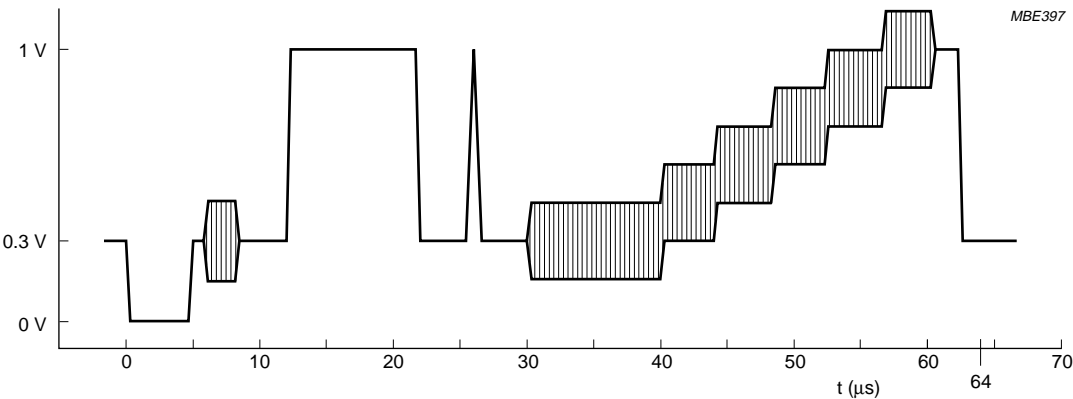

Fig.5 CCIR insertion line 330.
- Measured on CCIR 330 line, corresponding to a 5-step staircase with a chroma carrier of amplitude equal to 0.3 times the voltage between sync pulse and white (see Fig.5). The video signal is 500 mV (p-p). The modulation depth is adjusted using the I2C-bus to MD setting = 4 (82.5% typical modulation depth).